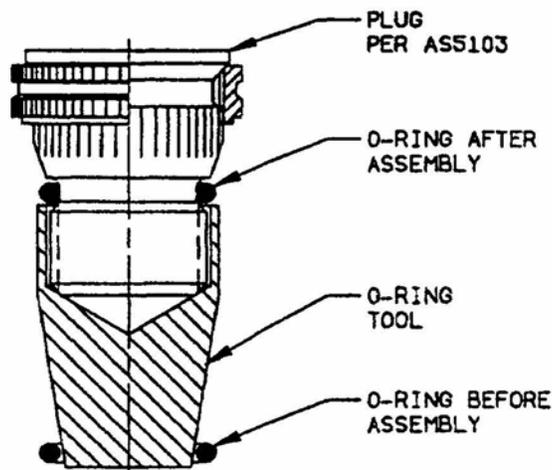

FIGURE 2 - O-ring Installation
5.1.1 Place the O-ring tool over the thread of the plug. Submerge the plug, O-ring tool, and O-ring in the fluid to be used in the working system, or a lubricant compatible with the system fluid and all components. Slide the O-ring over the O-ring tool and onto the plug. Be sure that the O-ring is not twisted and is properly seated in the groove of the plug. See Figure 2.